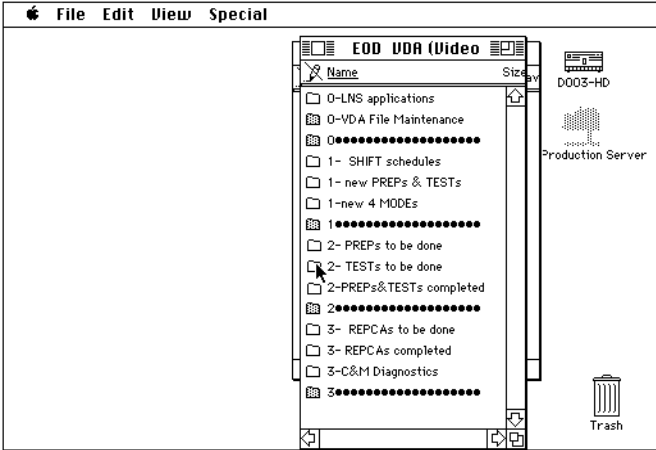

Figure 8
- 11.1 Position the mouse pointer on the “2-TESTs to be done” folder and double click to open it. See Figure 8.